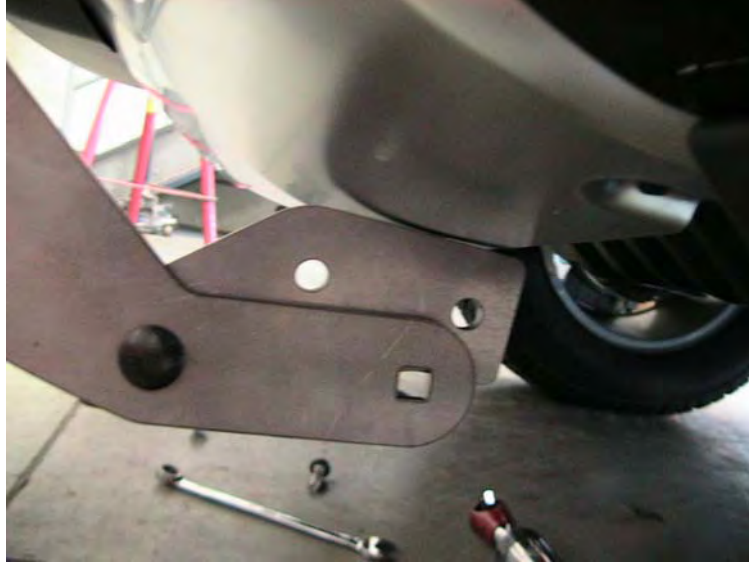
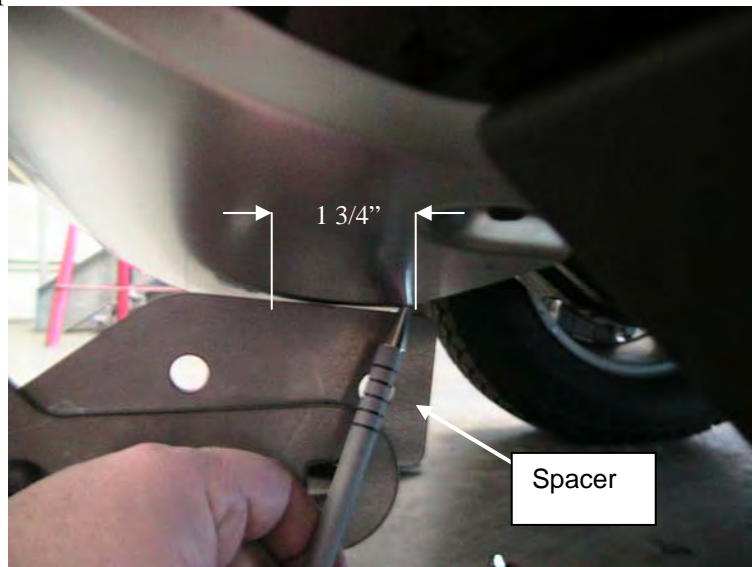

Figure 7. Setting up for slotting bumper.
Figure 8. Marking bumper for slots.
5. Insert one 7/16" x 1 1/4" carriage bolts through the bottom front hole of the side member leg as shown in figure 7.
6. Orient the frame extension spacer as shown in figure 7 and slide it over the carriage bolt. Finger tighten and mark a line on the bottom of bumper as shown in figure 8. Line must be at least 1.75" long from the rear edge of the bumper. Mark both sides of the spacer.